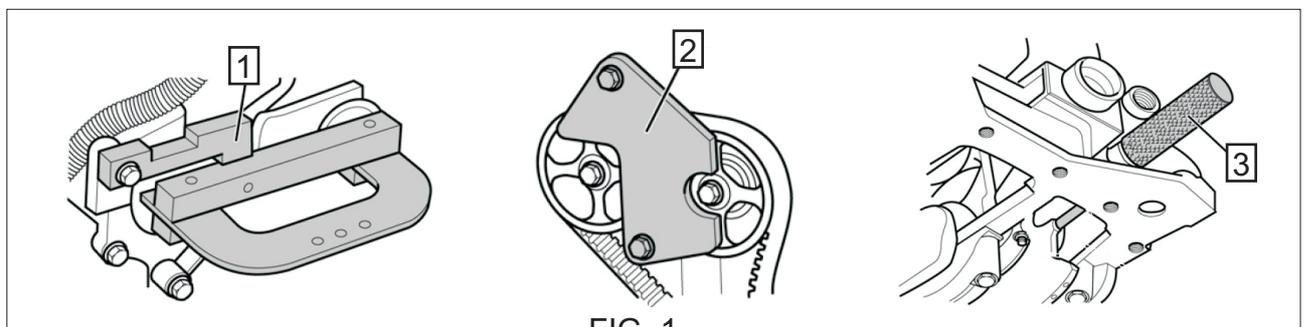
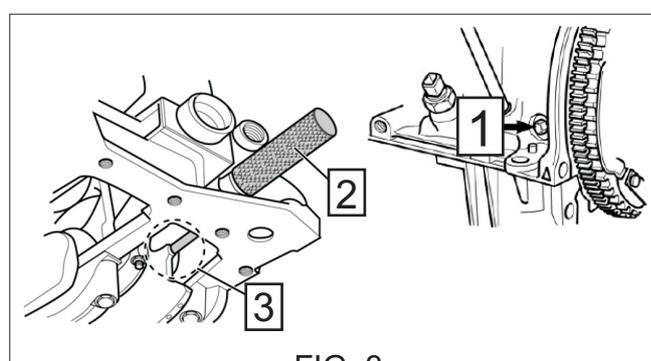

FIG. 1
FIG. 3
- Specific tool to camshafts (1) [FIG. 1].
- Specific tool to camshafts pulleys (2) [FIG. 1].
- Lock pin to crankshaft (3) [FIG. 1].
- ③ Remove engine block bolt (1) [FIG. 3] and fit the lock pin to crankshaft (2) [FIG. 3], making sure that the crankshaft abuts the lock pin (3) [FIG. 3].
- ④ Fit the specific tool to camshafts (1) [FIG. 1].
- ⑤ Loosen tensioner nut, separate it from timing belt and remove the tensioner.
- ⑥ Remove the timing belt, the idler and the water pump.
- ⑦ Remove camshafts pulleys using specific tool (2) [FIG. 1], the crankshaft pulley and clean them. Then, mount them again.
- ⑥ Dismount specific tool to camshafts (1) [FIG. 1] and the lock pin to crankshaft (2) [FIG. 3].